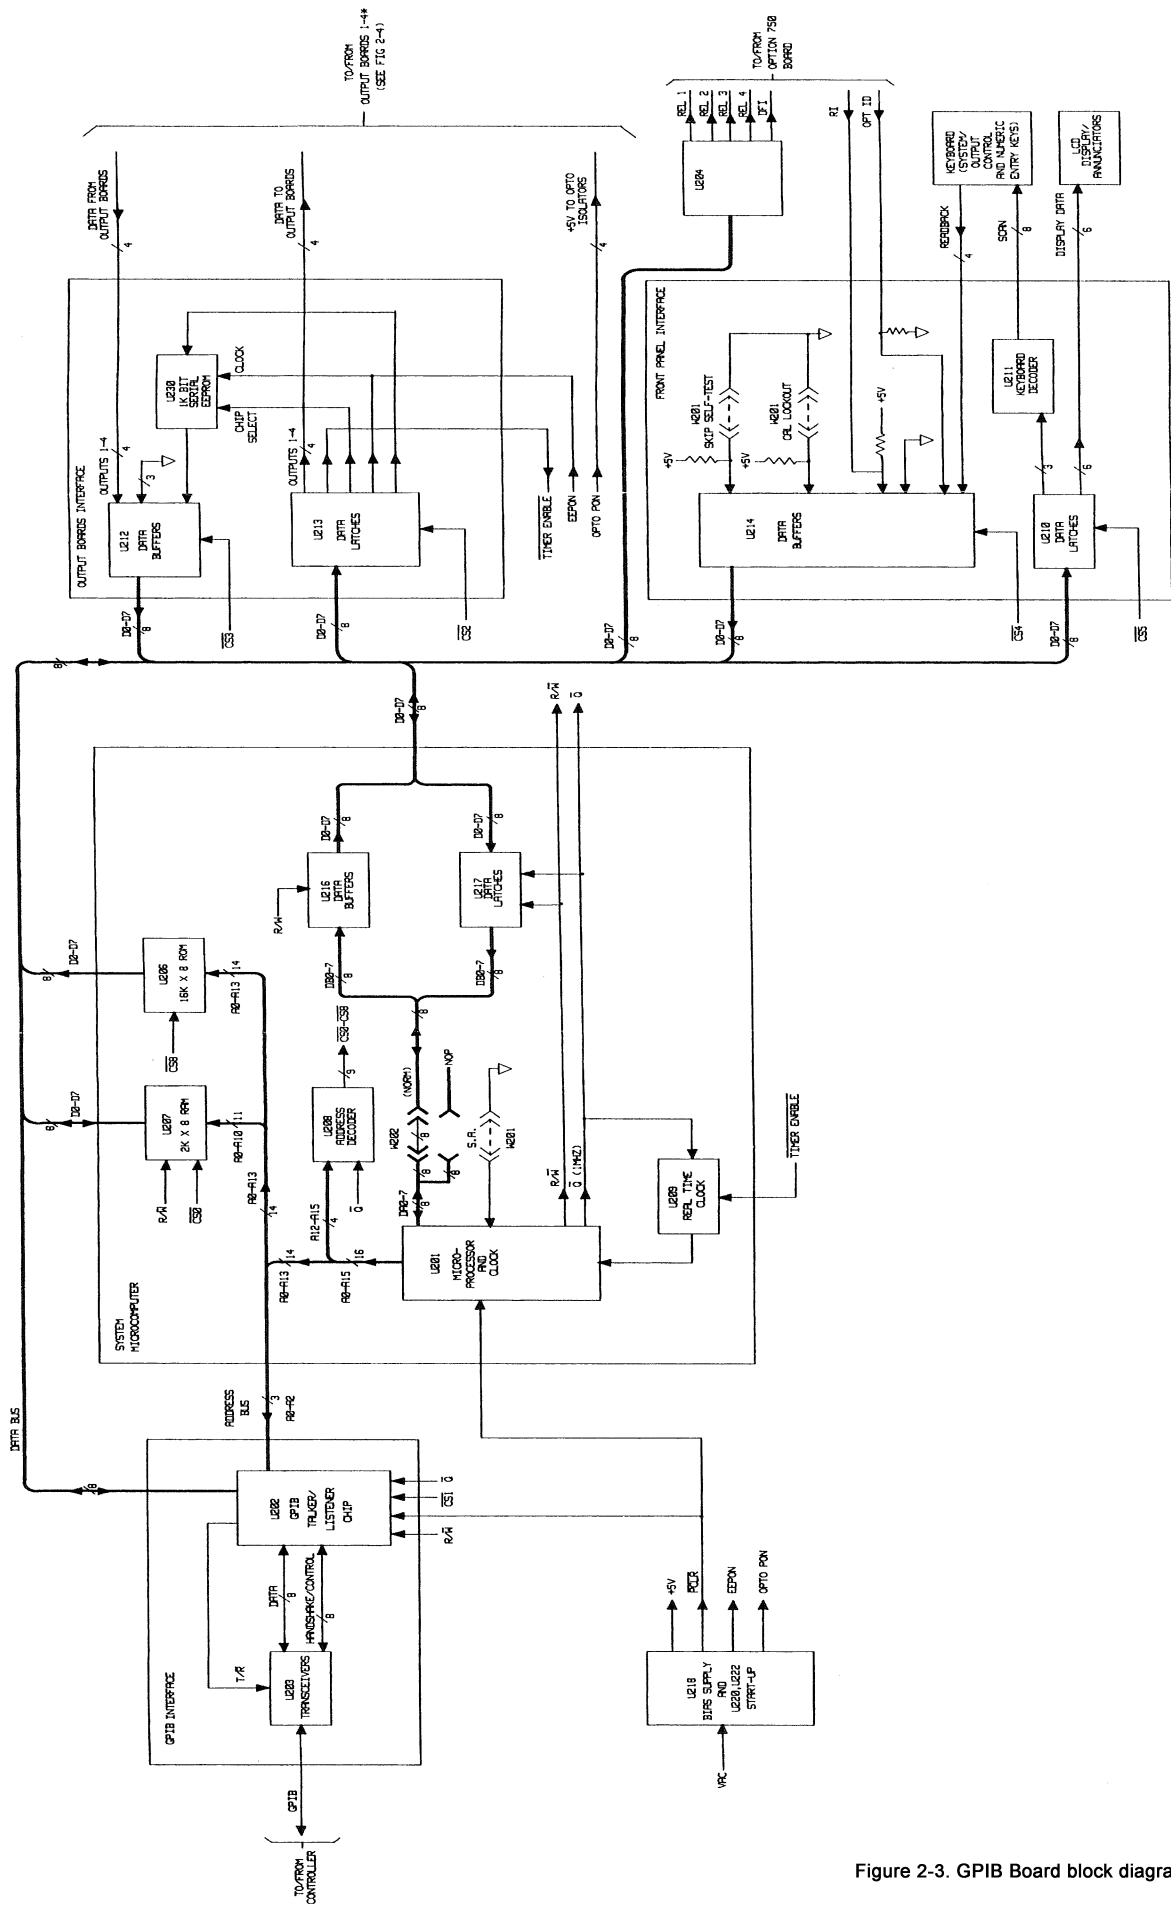

Figure 2-3. GPIB Board block diagram
**2-7 GPIB BOARD (FIGURE 2-3)**
Figure 2-3 illustrates the major circuits and signal flow on the GPIB board. Complete circuit details are shown on the functional schematic in the rear of this manual.
The functional names on the block diagram correspond with those on the schematic so that the diagrams can be correlated. As shown in Figure 2-3, the major circuits consist of the GPIB interface, the system micro-computer, the output boards interface, and the front panel interface circuit.
The system micro-computer decodes and executes all instructions, and controls all data transfers. It consists of a microprocessor, an address decoder, RAM and ROM memories, data buffers/latches, and a real time clock as shown in Figure 2-3.
**2-14 Memory (ROM and RAM).** The system microcomputer contains both ROM (U206) and RAM (U207) devices. The 32K non-volatile ROM contains the operating program and parameters. The 2 K static RAM stores variables voltage to be programmed, output current readback, etc. A third memory chip, shown in the output board interface block of Figure 2-3, is the EEPROM (electrically erasable programmable memory). The EEPROM (U230) stores all of the system constants including calibration constants, the supply's GPIB address, and model number (see paragraph 2-19).
This circuit provides the interface between the system microcomputer and each of the output boards (up to 4) in the power supply. Data is transferred serially one bit at a time between latches/buffers on the GPIB board and optoisolators on the output boards. As shown in Figure 2-3, the latches/buffers use data bus lines D0-D3 to send/receive data from the applicable output. Data line D0 is used for output board 1, D1 for output board 2, D2 for output board 3 (if present), and D3 for output board 4 (if present). A controlled and regulated 5 volt line is also generated on the GPIB board to operate art of the opto-isolators on the output boards. In addition to interfacing with the output boards, the latches/buffers interface with the 4 K bit serial EEPROM in which system constants are stored.